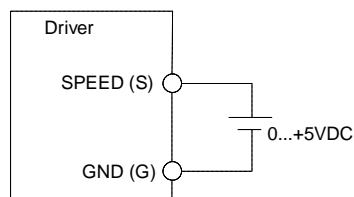

Fig.7. Analog speed control or analog position control with the use of an analog voltage signal 0...5VDC source.
- **If used analog speed control (P0=A0)** – control the motor velocity using the internal potentiometer SPEED, an external potentiometer (connected to inputs "+5", "S" and "G" of the connector D on the figure 1) or source of analog signal 0 – 5VDC (connect according the scheme on the figure 7). The motor motion can be started and stopped by pressing the START/STOP button, or by signal at the ENABLE input. When use an external potentiometer, the internal potentiometer SPEED should be turned to the position "0".
- **If used analog position control (P0=A1)** – control the motor rotation angle using the internal potentiometer SPEED, an external potentiometer (connected to inputs "+5", "S" and "G" of the connector D on the figure 1) or source of analog signal 0 – 5VDC (connect according the scheme on the figure 7). The motor motion can be started and stopped by pressing the START/STOP button, or by signal at the ENABLE input. When use an external potentiometer, the internal potentiometer SPEED should be turned to the position "0". In this operation mode microstepping below 1/16 is not applicable. Microstepping mode 1/16...1/128 should be used (menu item P3). In case of microstepping ratio 1/16 for a stepper motor with step angle 1.8° - the maximum rotation angle is 270°; in case of microstepping ratio 1/32 – 135°; 1/64 – 67,5°; 1/128 – 33,7°. The maximum momentary target speed is 600 steps/sec.